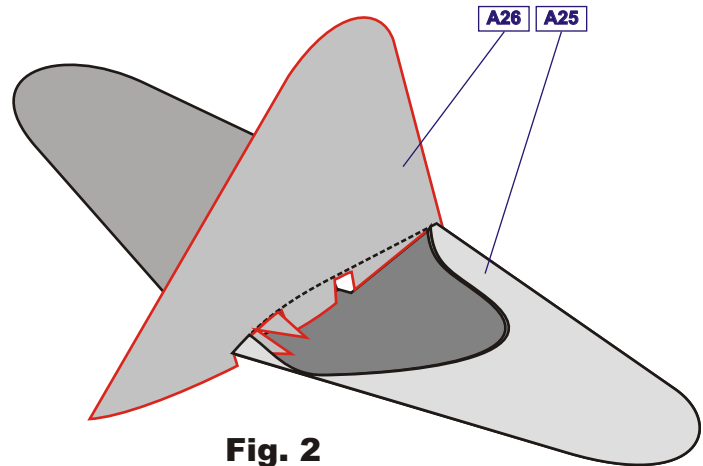

Fig. 2
3. Attach the horizontal and the vertical stabilizers shown on Fig.2. Cut out the dark gray field at the tail of the fuselage and insert the assembly there.